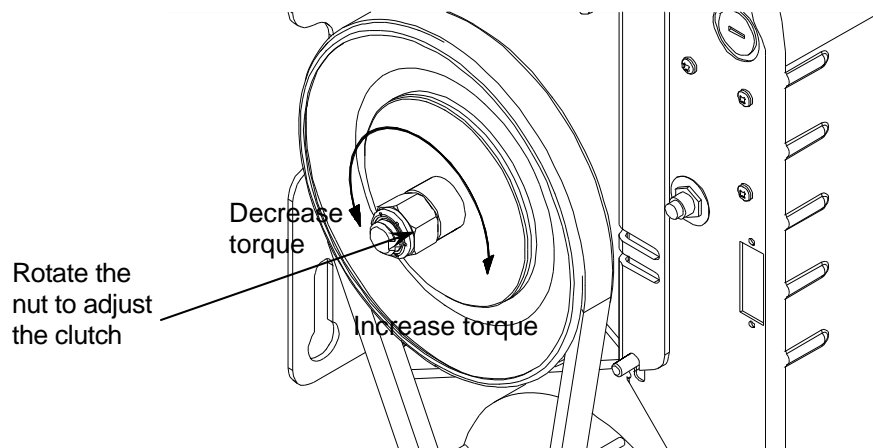

Figure 12 Clutch adjustment
1. Adjustment of clutch is done by rotating the nut located at the end of the input shaft where the pulley 7" is located (Figure 12).